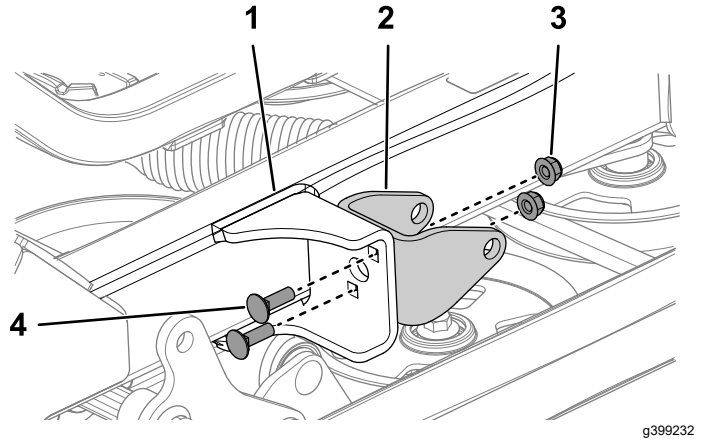

Figure 10
2. Secure the actuator mount to the left frame tube using 2 carriage bolts (5/16 x 1 inch) and 2 locknuts (5/16 inch) as shown in Figure 10.